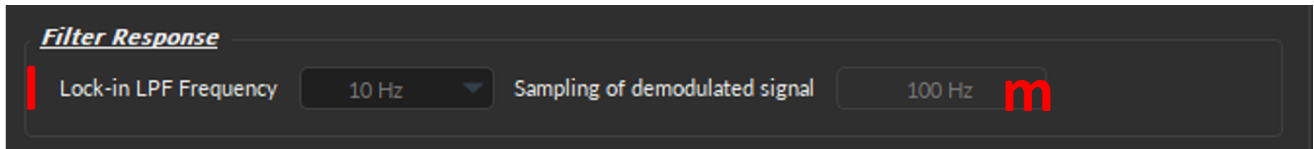

Figure 16.84: Lock-In, Filter Response
- l) The **Lock-in LPF Frequency** (Fig. 16.84, l) defines the **Cutoff Frequency** of the low-pass filter that extracts the signal and is set to 10 Hz by default. This value was selected because, in photometry experiments, the most significant noise source to the filter is around the carrier frequency above 200 Hz.
- m) The **Sampling of demodulated signal** (Fig. 16.84, m) is by default set to 100 Hz, and effectively serves as a 100x decimation. This value was selected because photometry signals are slow (>1 sec) and does not require such a high sampling resolution.